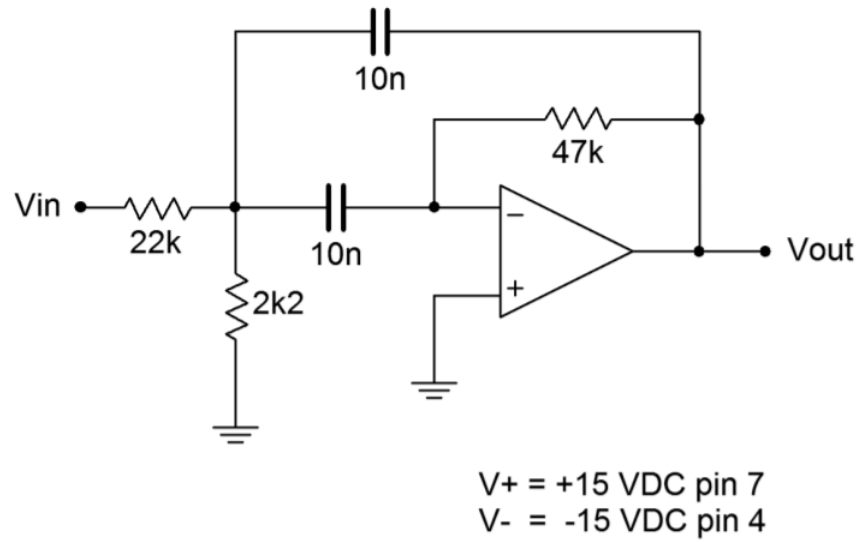

Figure 21.5.1
1. The circuit of Figure 21.5.1 is a second order band pass filter. Calculate and record the center frequency (f_0) and mid-band voltage gain in Table 21.7.1
2. Assemble the circuit of Figure 21.5.1 using the medium speed op amp.
8. Build the circuit of Figure 21.5.1 in a simulator and run an AC Analysis. Be sure to run the plot from 10 Hz to approximately 100 kHz and use a decibel scale for the gain amplitude. Compare the plot to the graph generated from Table 21.7.2.